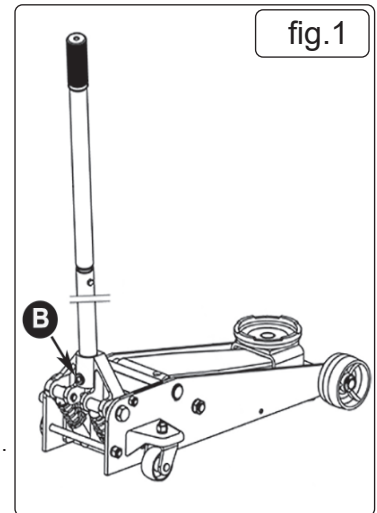

fig.1
- 4.2. Undo the handle socket screw (B) until it no longer protrudes into the handle socket (Fig.1).